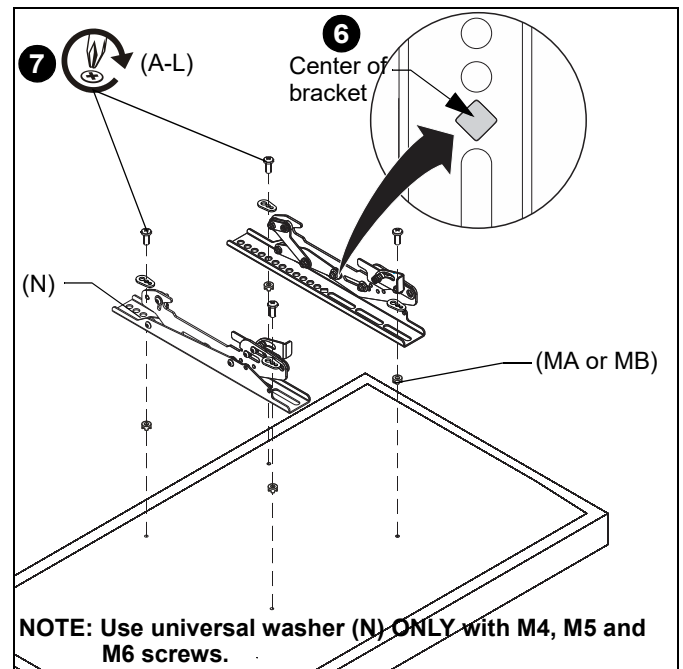

Figure 2
3. Select screw *diameter* by examining hardware (A-L) and comparing with mounting holes on display. (See Figure 2)
- Nesting spacers (M) **ARE** required if mounting holes are recessed, or if protrusions prevent interface brackets (R and S) from laying flat.
5. Select screw *length*: (See Figure 2)
6. Align the center of the interface brackets (R and S) with center of screen. (See Figure 2)
7. Use selected screws (A-L), universal washers (N-if required) and nesting spacers (M-if required), to connect interface brackets (R and S) to back of display. (See Figure 2)